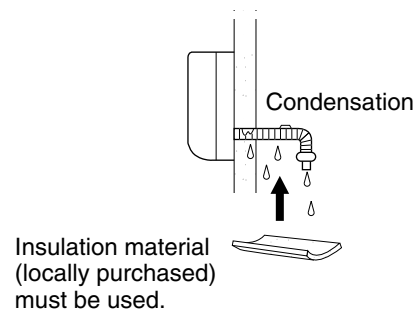

Fig. 3-52
- If the drain hose will run in the room, insulate the hose with insulation* so that chilled condensation will not damage furniture or floors. (Fig. 3-52)